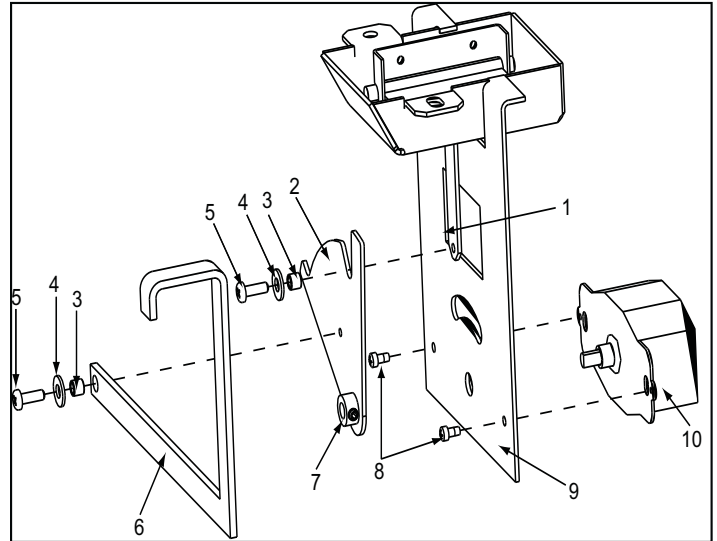

Figure 4.23 Exploded View of Entire Assembly for Point of Reference only
- Rotate linkage control arm into final position and re-attach to mounting plate. Note that the D cut is now facing the linkage timer arm. Re-attach the linkage timer arm. Figure 4.23.